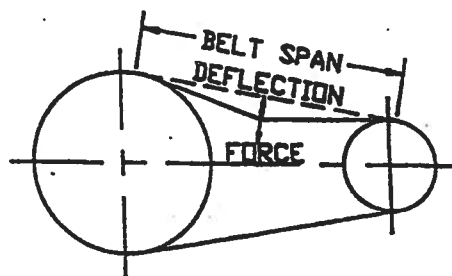

Figure 3. Checking V-Belt Tension by Deflection Force
1. Measure the belt span (refer to Figure 3).
Prior to the initial break-in period, the belts should be adjusted to the upper range of values listed in Figure 3. During this break-in period the belts will stretch somewhat as they seat themselves in the sheave grooves. After the first four hours of "run-in" the belts should be rechecked and if necessary, the tension should be readjusted to that value. This should again be checked after twenty-four hours to make sure they are still within this range.